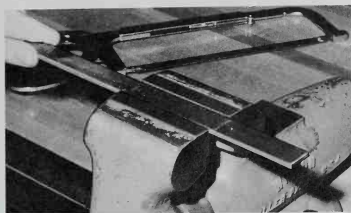

Fig. 4-21. Clamp stock tightly in vise. The line where the cut is to be made should be close to the vise jaws.
3. Secure the stock in a vise, or with clamps. The cut line should be close to the end of the vise, jaw or clamp, Fig. 4-21.